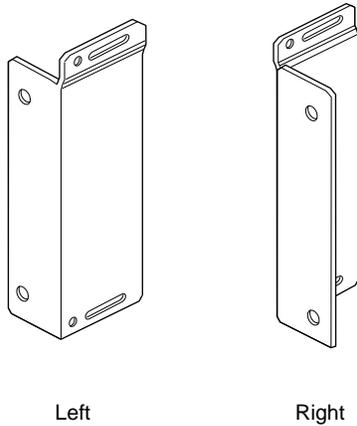

Figure 3-2 Origin200 Rackmounting Ears
2. Attach the ears. There are two ears, one for the left side and one for the right side. See Figure 3-2.